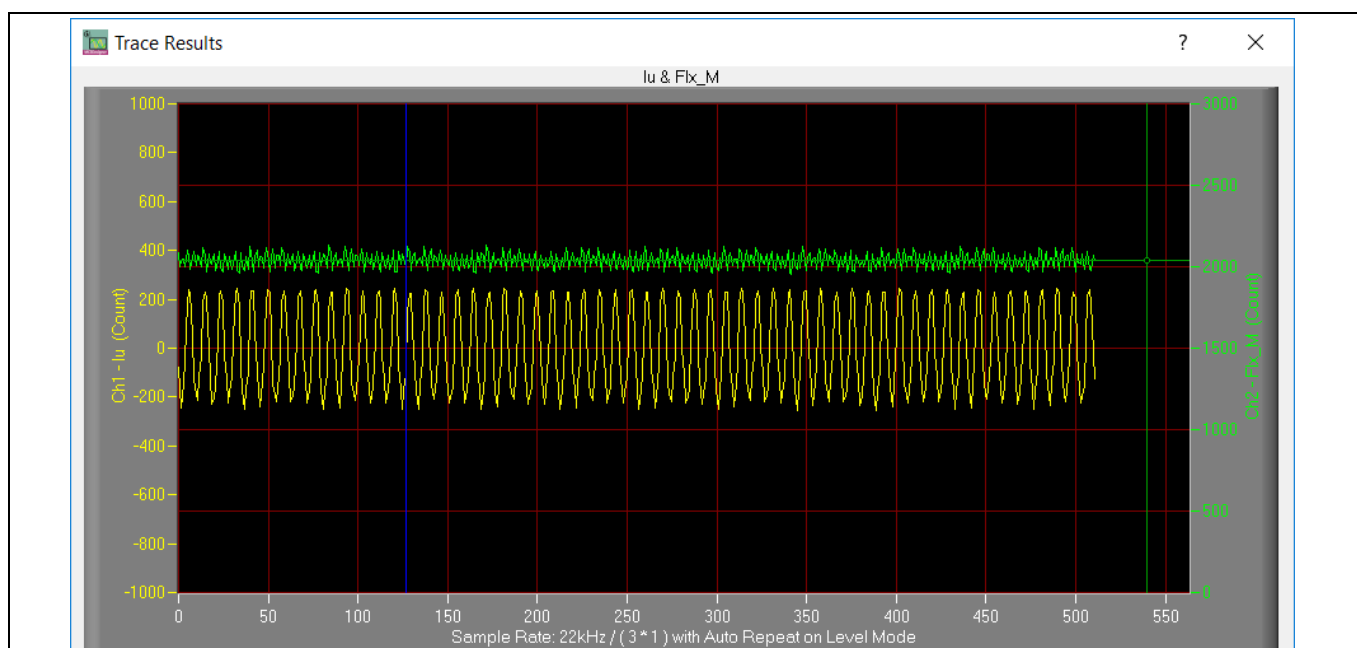

Figure 9 Trace waveform for Iu & Flx-M at 50% speed
3. Set TargetSpeed to about 50% of maximum speed, start "Iu & Flx_M" trace with "Auto Repeat On Level," see Figure 9. Flx_M is good within the range of 2000~2500 (rated value is 2048), and must be steady and DC-like.